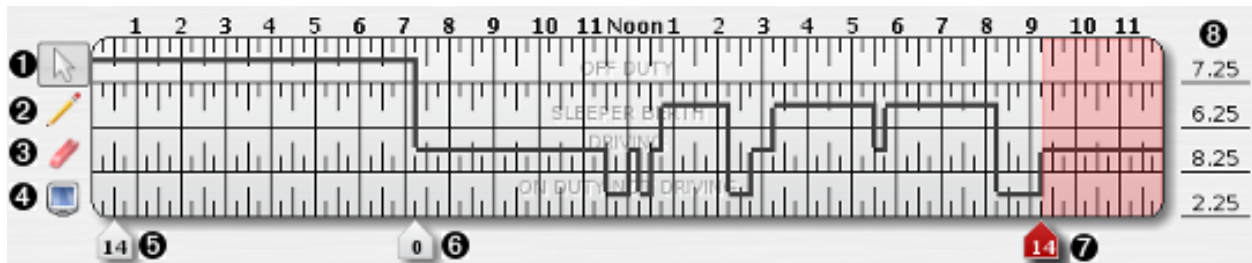

Figure 5.38. Log Graph
The log graph section of the driver's log screen will be the section that most drivers are already familiar with because of its similarity to the log graph on a standard paper log. However the trucklogger log graph has some powerful editing modes (Selection, Insert, Delete). For more information about each of these modes see Section 5.3.1, "Log Graph (Selection Mode)", Section 5.3.2, "Log Graph (Insert Mode)", and Section 5.3.3, "Log Graph (Delete Mode)". For a description of each of the elements of the log graph section Figure 5.38, "Log Graph".
2. Move your mouse pointer over top of the log graph see Figure 5.38, "Log Graph" and then double-click your left mouse button. You must quickly click the mouse button two times in very rapid succession for it to count a a double-click.